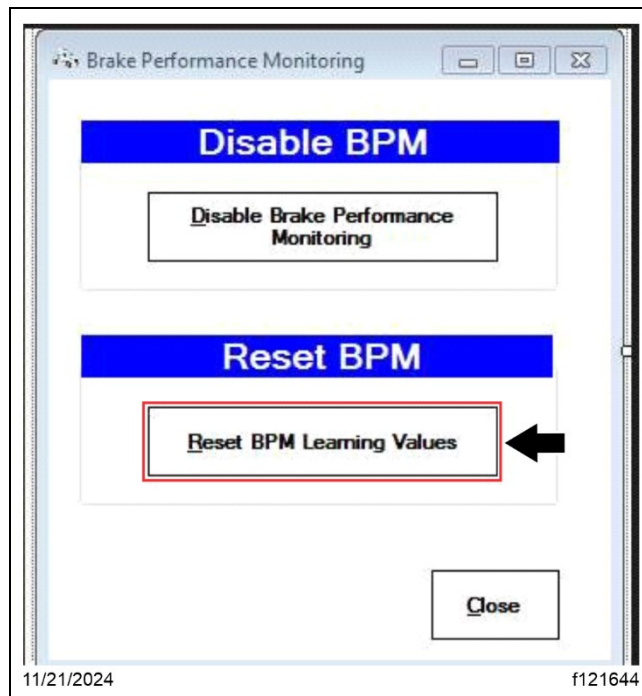

Fig. 64, Resetting the BPM Learning Values
22.2. The 'Brake Performance Monitoring' window opens. Select the 'Reset BPM Learning Values' button. The reset button runs a routine to reset the BPM-specific learned values; this step should be completed prior to disabling the BPM. See Fig. 64.